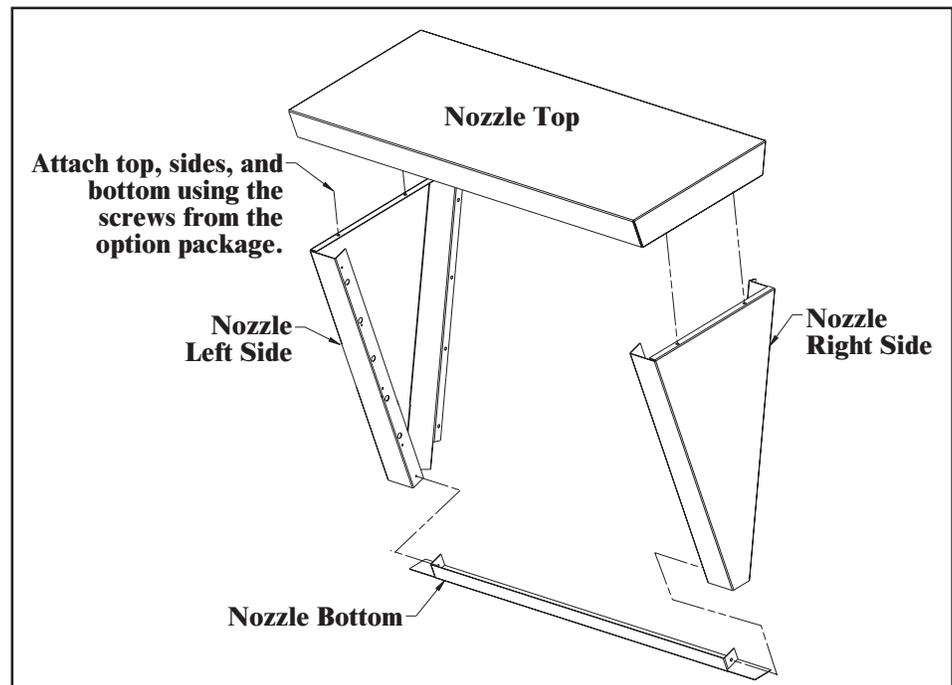

FIGURE 1 - Assemble the Downturn Nozzle
2. **Assemble Downturn Nozzle Section (See FIGURE 1.)**